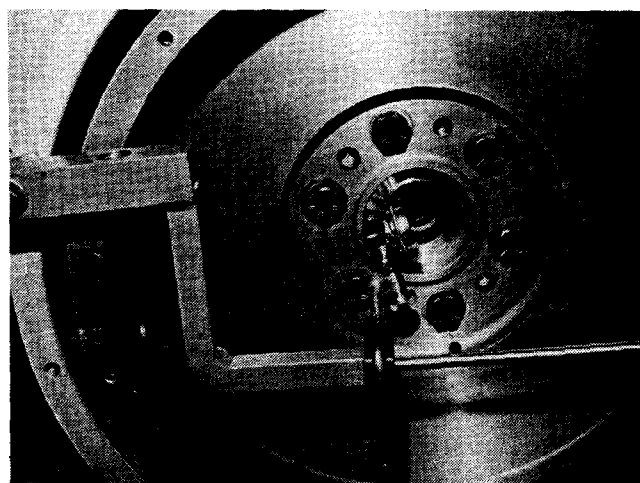

Fig. 14-47, (N114138). Indicating flywheel bearing bore
- a. Attach indicator gauge to side of flywheel housing. Fig. 14-47.